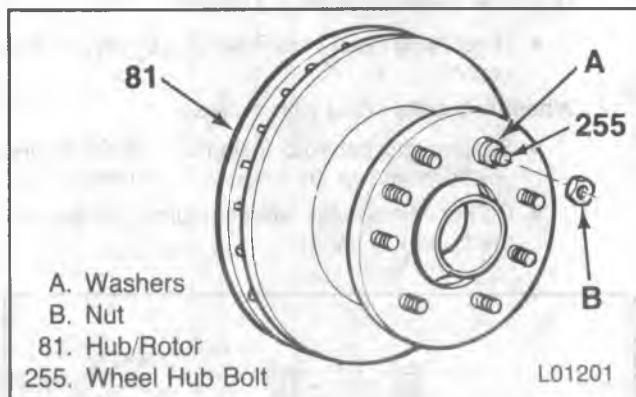

Figure 56 — Installing the Hub Bolts
Install or Connect (Figure 56)
1. New serrated bolt (255) into the hole in the hub/rotor.
- Place four washers onto the bolt, then fasten a nut onto the bolt until the nut bottoms on the washers (figure 56).